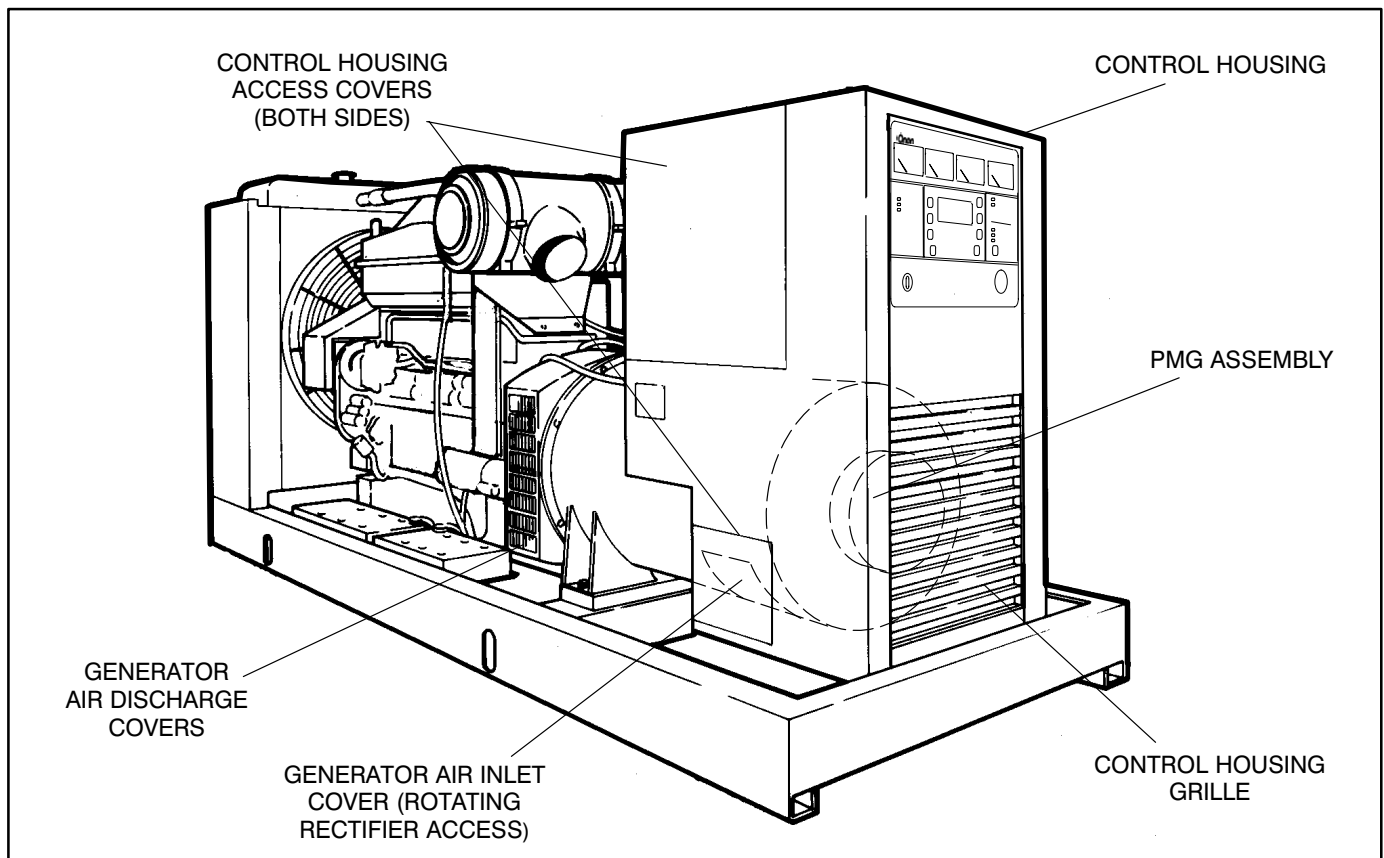

FIGURE 6-7. GENERATOR AND CONTROL HOUSING ASSEMBLY
2. Remove the control housing grille and access covers (see Figure 6-7).
2. Remove the air inlet and discharge panels and access covers from control housing and generator (see Figure 6-7).